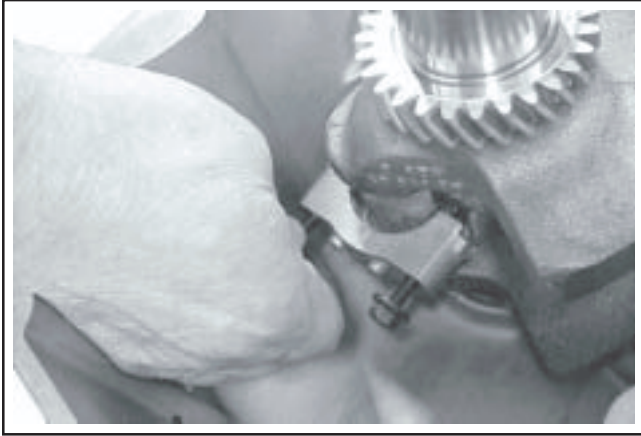

Figure 11-8. Attaching #1 Rod Cap.
5. Guide the lower end of connecting rod and rotate the crankshaft to join the two. Install the rod cap to the connecting rod using the two hex. flange screws and torque in increments to **11.3 N·m (100 in. lb.)**. See Figures 11-8 and 11-9.